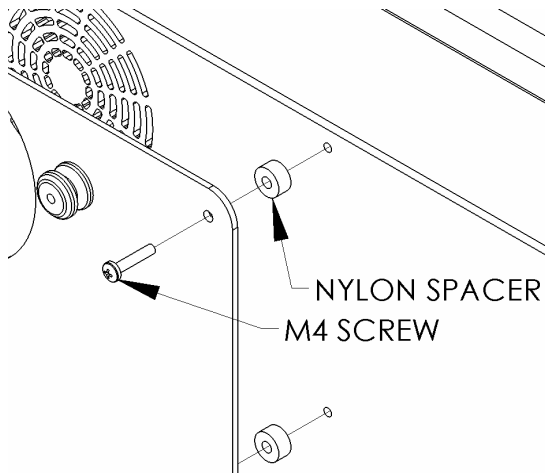
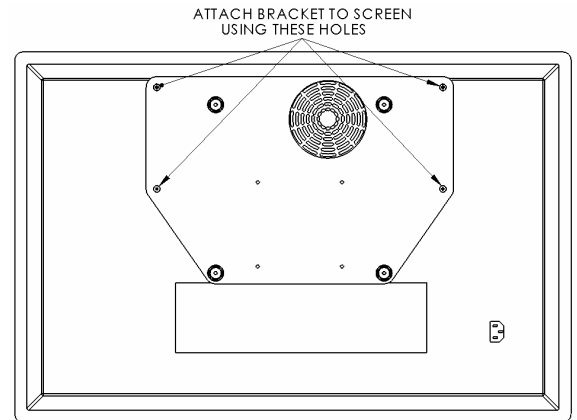

Figure 5
Figure 6
4. Attach bracket to back of display using the M4 x 20mm screws (see Figure 5 & Figure 6). Do not over tighten screws.